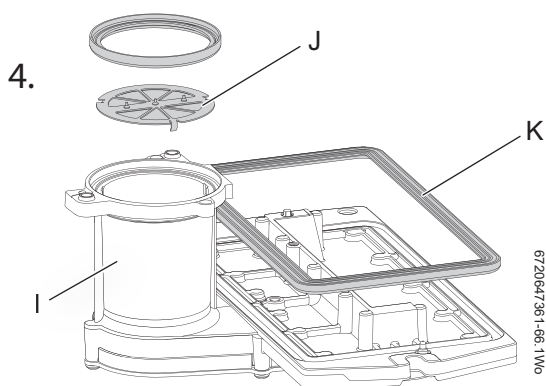

Fig. 68 Diaphragm
- Remove the burner (H).
- Ensure that a new seal (K) is used, refer to fig. 68.